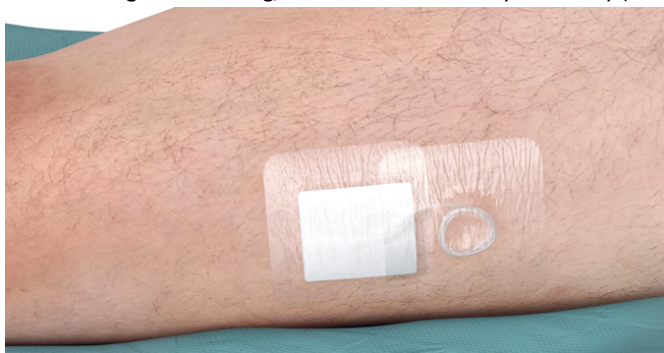

Figure 6
4. Cover the entry points with sterile dressing and place additional bandage over the remaining device tubing/knots to secure to body externally (see Figure 6).